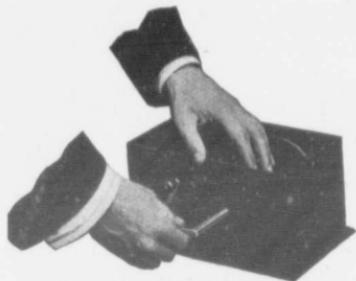

FIG. 6.
10. Now remove cover from box and draw out axle "D" (Fig. 6), holding apron and duplex paper with other hand to keep end of apron from loosening.